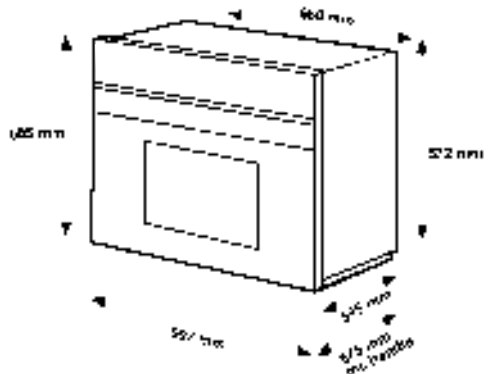

**Fig. 2**
- (e) Finally the oven unit must be secured to the cabinet. Position the oven side trims equally about the cabinet sides. This should give an overlap of approx. 1.5mm per side (see Fig. 2). Secure the oven unit to the cabinet, through the side trims, by means of the four screws provided, two each side trim.